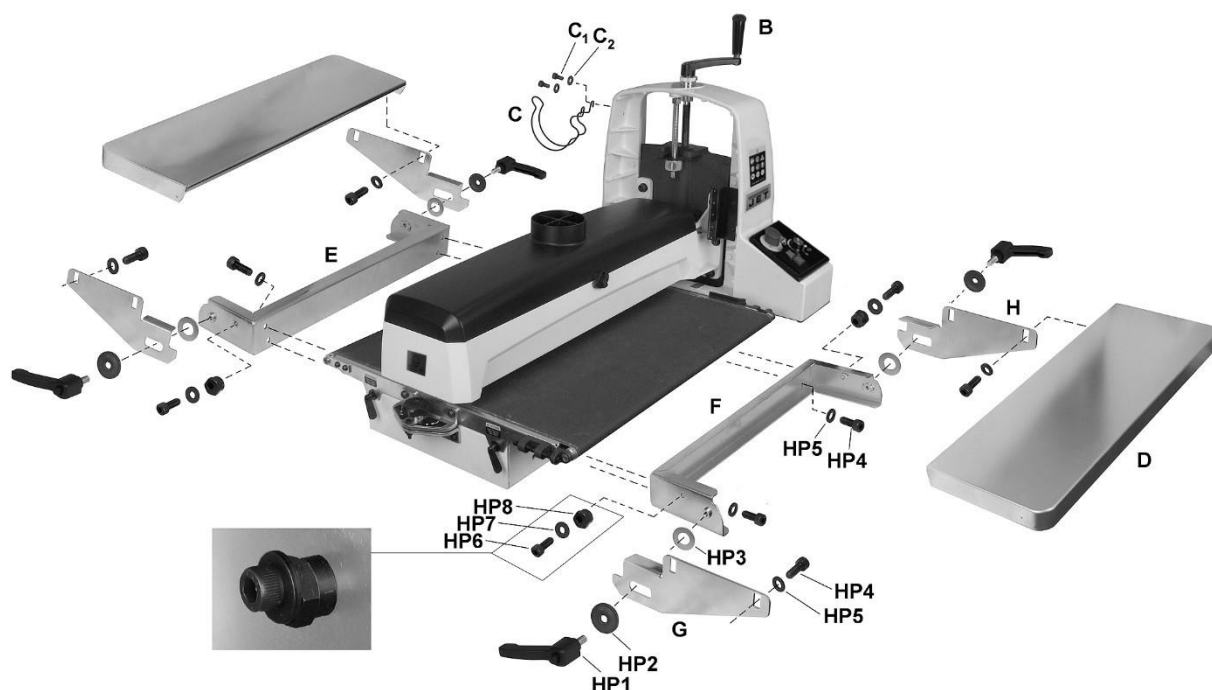

Figure 6-3: Assembly of Sander and OPTIONAL Infeed/Outfeed Tables
1. Install height adjustment handle (B, Fig 6-3) onto spindle and tighten set screw.
2. Install hose hanger (C) with screws and washers (C1/C2).
1. Install infeed and outfeed brackets (F, E, Figure 6-3) to the threaded holes in sander base with socket head screws and flat washers (HP4/5). Make sure left and right brackets are oriented as shown. The brackets should be flush against the base.